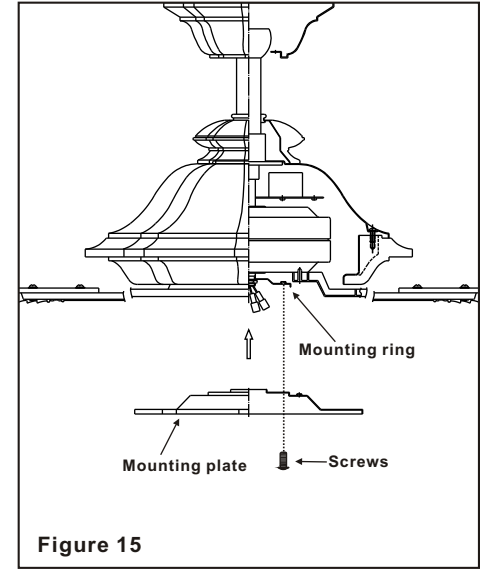

Figure 15
Step 2. Place the key holes on the mounting plate over the 4 screws previously loosened from the mounting ring, turn mounting plate until it locks in place at the narrow section of the key holes. Secure by tightening the 4 screws previously loosened and the one previously removed. (Fig. 15)